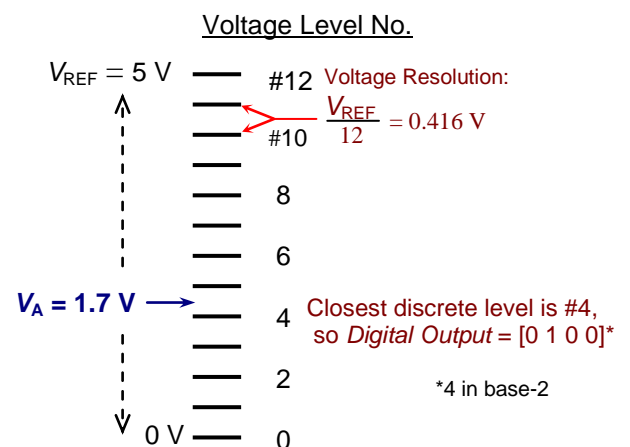
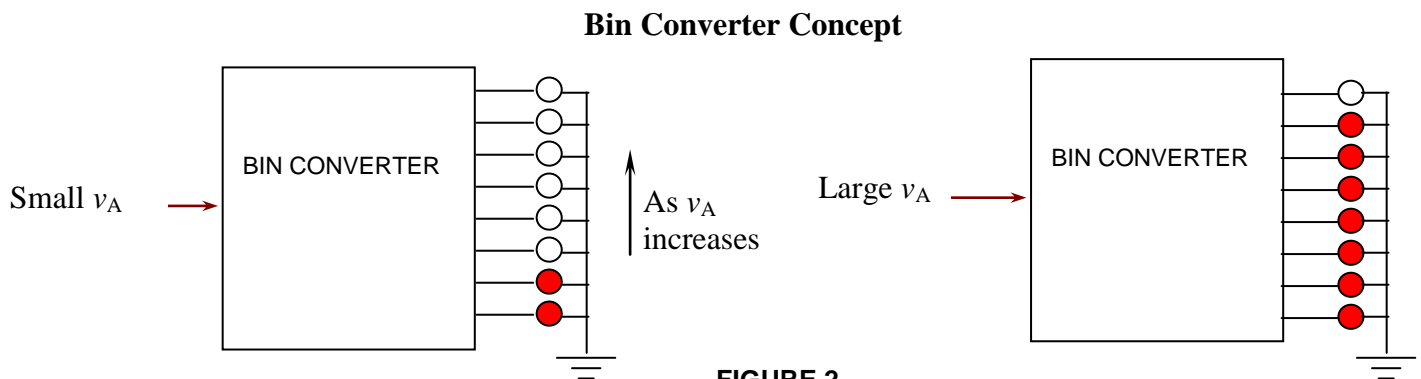

FIGURE 1
FIGURE 2
For the prelab assignment design a DAC similar to the one in figure 2 that will provide good dynamic range but not saturate the output of the DAC OP AMP.
Figure 1: OP AMP summer four bit DA converter circuit. VCC+ and VCC- should be larger in magnitude than VREF. Switch Bit 0 is the least significant bit (LSB). Switch Bit 3 is the most significant bit (MSB). Pin 6 of the OP AMP is the output of the DA converter. The \pm VCC power supplies only powers the OP AMP. The VREF only provides signal to the input of the summer. The value of the OP AMP feedback resistor should be chosen to maximize dynamic range of the OP AMP.
Digital signals typically have only two voltage states, a low and a high. Typically the low is specified as zero volts and the high is specified by the power supply voltage of the logic chips. To generate voltages that are not zero or power supply voltage a DAC is used. One of the simplest methods of converting from the digital to analog domain is by using an OP AMP summer circuit with appropriately weighted input resistors (figure 1).
The DAC functions by specifying different gains on the inputs of the summer. Because the same value logic voltage levels will be applied to each of the summer inputs, each input needs to have a different gain for it to result in a different output voltage. By selecting appropriate values for each of the summer input resistors the gains or weights of each input can be set. In figure 1 the values for the input resistors were set to give increasing binary weight to each input. The Bit 0 input is connected to the $8R$ (or 8 times R value) resistor which sets a gain of $1/8$ (relative to Bit 3) for that input. This is the smallest gain therefore has the least significant impact on the output. The bit 3 input has an input resistor value of R therefore its gain is the largest. Since this input has the most significant effect on the output it is called the most significant bit (**MSB**). The feedback resistor on the summer in Figure 1 has a question mark for its value. You select the optimal value for this resistor so that when all the Bits are high the output will not saturate.
Usually the input to the DA converter is provided by digital outputs (figure 2), not mechanical switches. A digital output can be thought of as a positive or negative going step function. The step transitions from zero to the VCC of the digital logic. The VCC of the digital logic may not be the same as that of the summer.
- a) Design and construct a 4 bit binary weighted digital to analog (DA) converter.
- b) Use a microcontroller for the binary inputs to the DAC as in figure 2. The microcontroller will replace the VREF and the four switches of figure 1 with four digital outputs. The VREF when using the microcontroller will be its supply Voltage (VCC). For the Arduino UNO the VCC of the microcontroller is 5 volts. If you use an Arduino to count through the DAC inputs, the EK307_DAC_LAB code on github.com/ekzosuls will provide the proper counting scheme. The code produces a repeating four bit binary count on Analog input pins A0 to A3. Note that the code reprograms the analog input pins to be digital outputs. The code produces a convenient periodic output to monitor on the oscilloscope. Setting the scope to trigger will make it easier to read the output.
Figure 2: DA converter with a microcontroller (μC) providing the inputs. On many μC evaluation boards such as the Arduino Uno, the μC VCC power is provided over USB and you do not have to connect a power supply to the microcontroller. In this case it is important to know what the Voltage, V_{Micro} , is so you can properly set the resistor values of the DAC to maximize dynamic range.
A *bin converter* is one in which the output consists of a simple linear row of digits, rather than a base-2 number. Its bits are set to **1** in linear sequence as v_A is increased. Bin converters are used, for example, in LED-based bar graphs. In the latter, the illuminated length of a row of lights indicates the relative magnitude of v_A . The bin converter determines the level to which the input should be assigned, as in Figure 1 above.